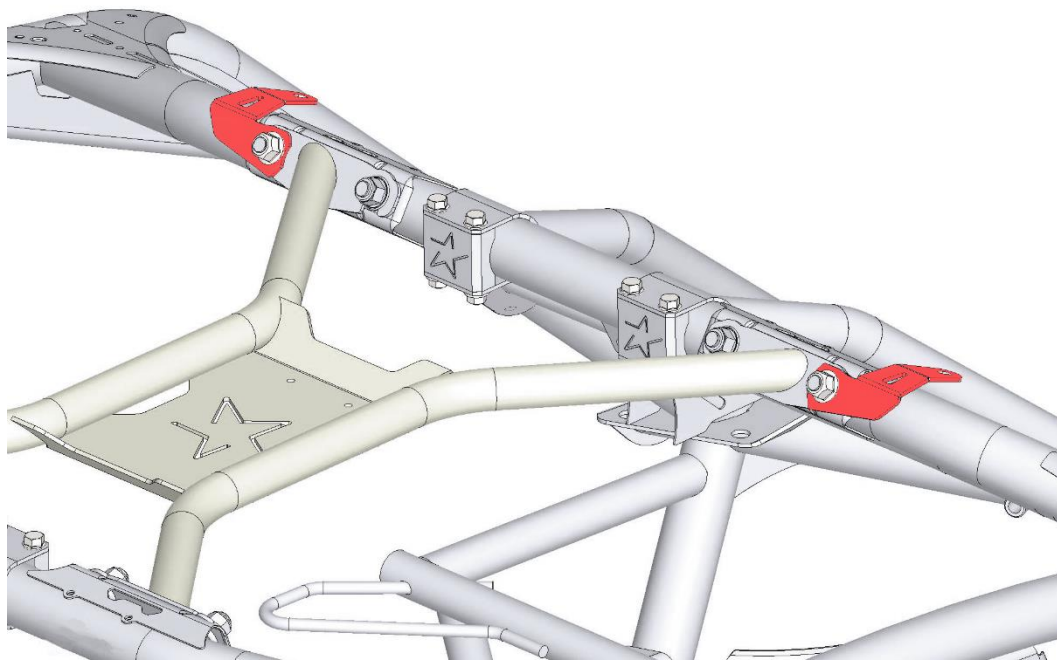

Figure 2-1
2. Attach the left and right side roof mount brackets and use remaining M12x1.75 nylon locknuts to secure them in place. Hand tighten nuts only at this time.(fig 2-1)